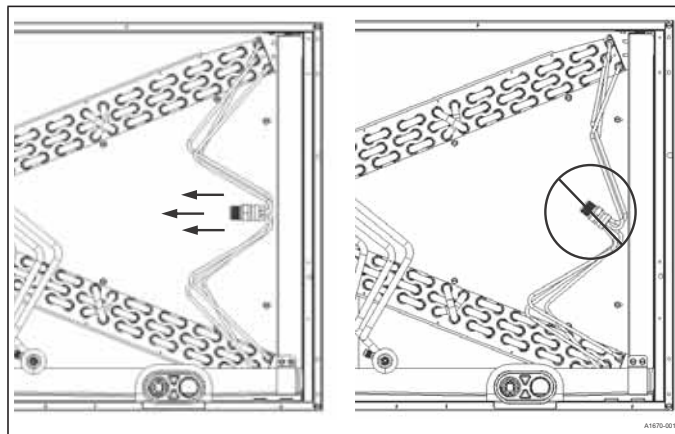

Figure 9: Recommended distributor adjustment
2. Adjust the distributor position to allow the preformed liquid line assembly to properly line up with the hole in the tubing access panel. Raise the distributor body approximately 2 in. toward the top of the coil or what would be the top of the coil if the coil was in the upflow position. See **Figure 9** and adjust as necessary.